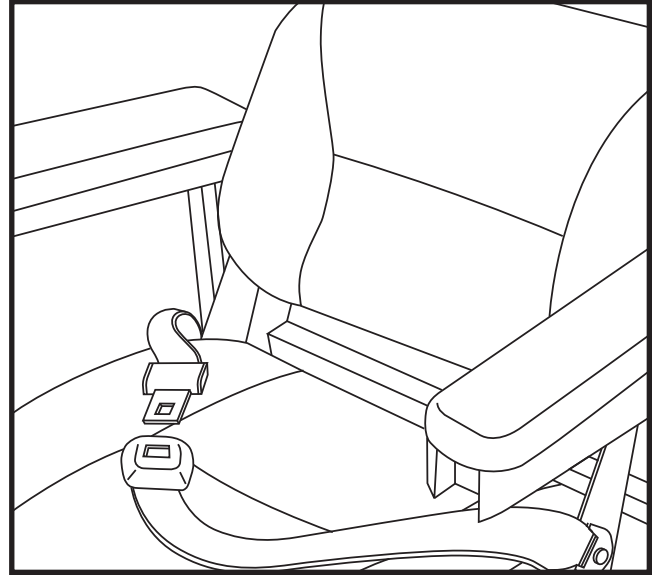

Figure 17. Positioning Belt Adjustment
Your power chair may be equipped with a positioning belt that can be adjusted for operator comfort. **See figure 17.** The positioning belt is designed to support the operator so that he/she does not slide down or forward in the seat. The positioning belt is not designed for use as a restraining device.
1. Once seated, insert the metal tab on one side of the belt into the plastic housing on the opposite side until you hear a click. **See figure 17.**